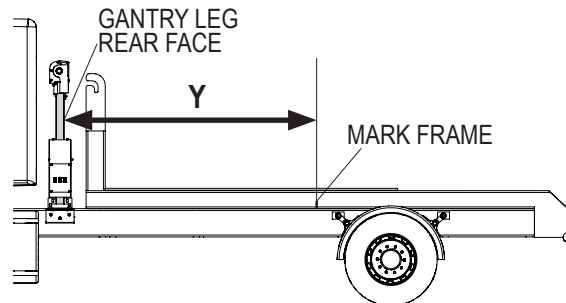

FIG. 121
- Repeat on the opposite side of the chassis. See Figure 121.